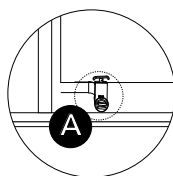

Figure 13.3d
2. Locate the Quick Drain Valve, Figure 13.3d.